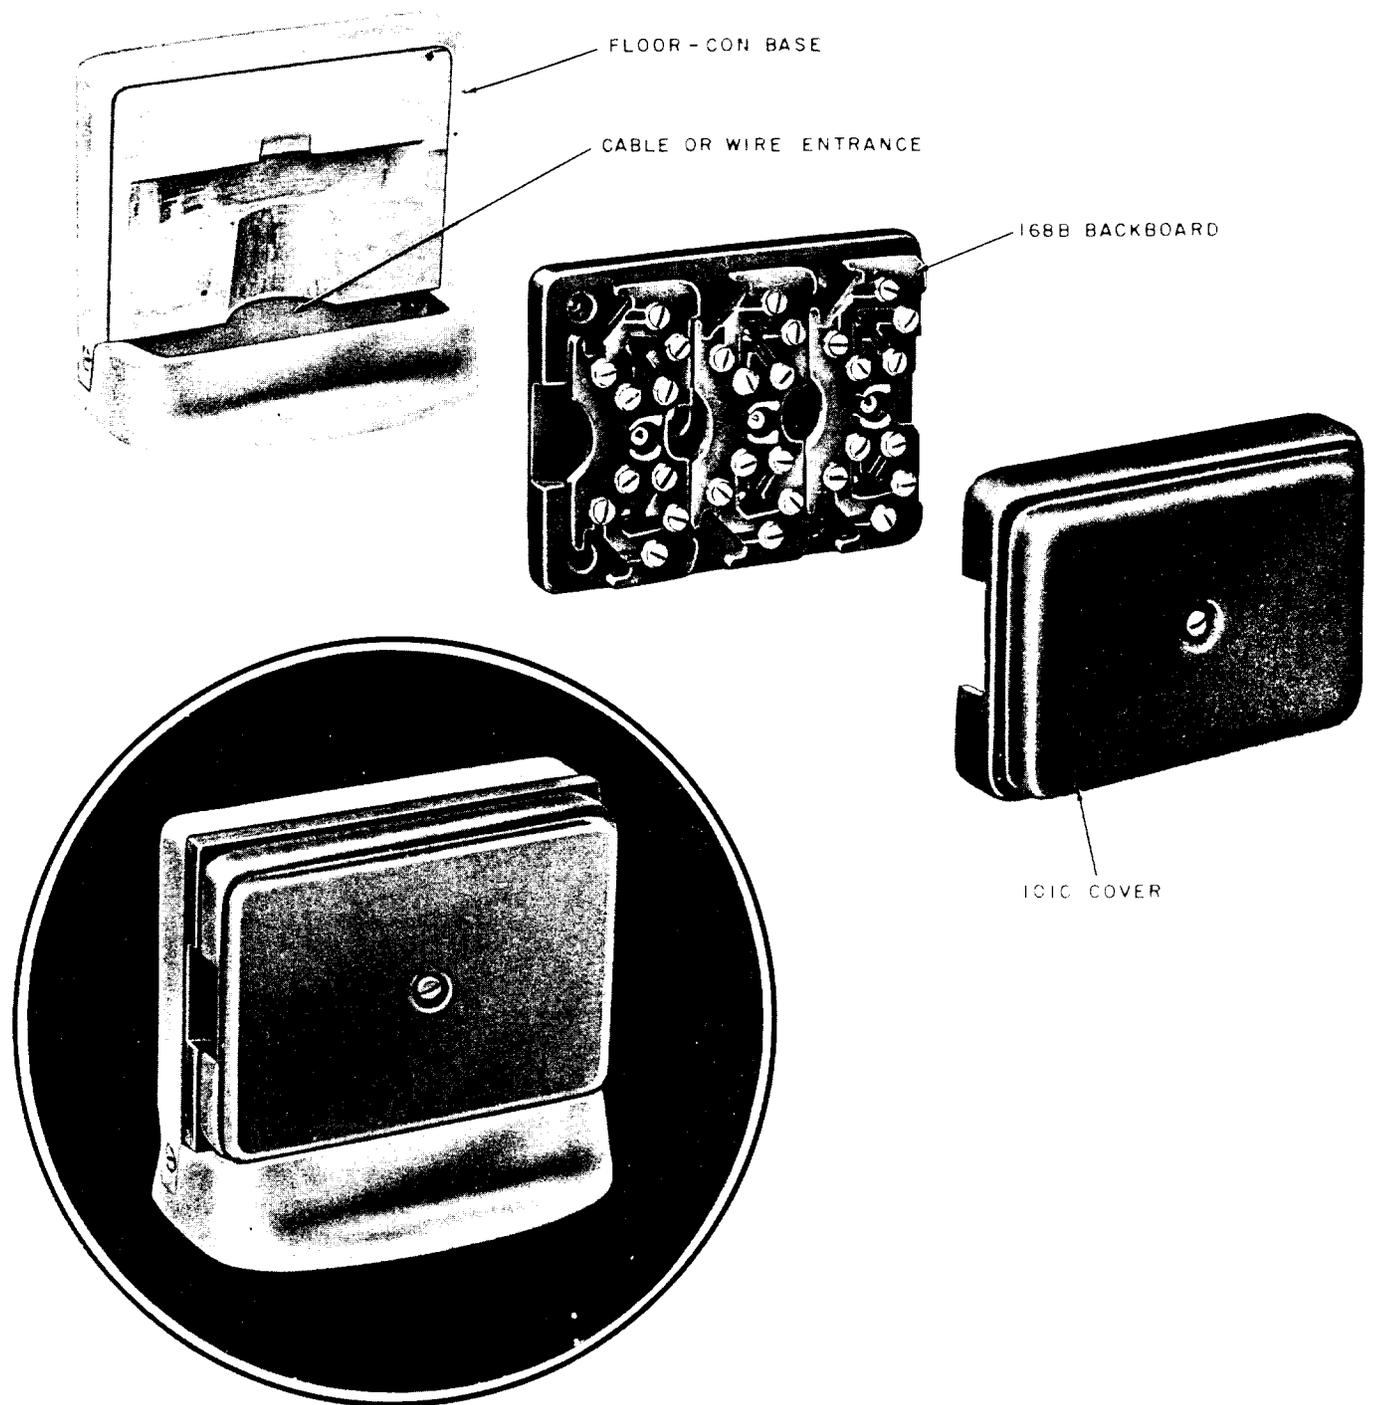

Fig. 7—Floor-Con Outlet
5.11 The Floor-Con outlet (Fig. 7) consists of a base and cover and can be used to house three 44-type connecting blocks on a 168B backboard, four 44-type connecting blocks on a 168C backboard, or KS-type connectors.